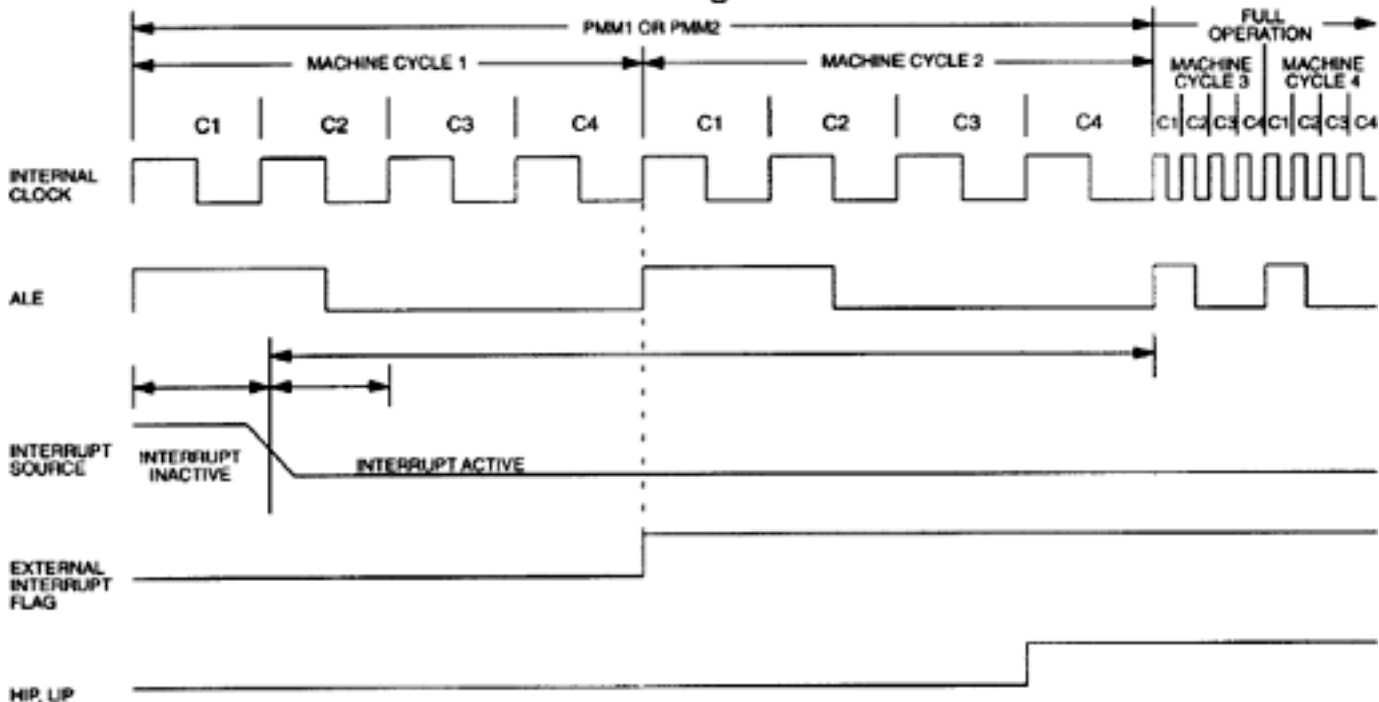

Figure 3. INTERRUPT-DRIVEN SWITCHBACK
One of the primary considerations when using the switchback procedure is the time required to return the device to full speed from a PMM. This is a factor in calculating the latency associated with servicing an interrupt. Switchbacks will occur at the C1 cycle of the first instruction following the event initiating the switchback. If the current instruction in progress is a write to the IE, IP, EIP or EIE register, interrupt processing will be delayed until the completion of the following instruction. Figure 3 demonstrates the timing relationship between interrupts and switchbacks during a two-cycle instruction.
**INTERRUPT-DRIVEN SWITCHBACK Figure 3**